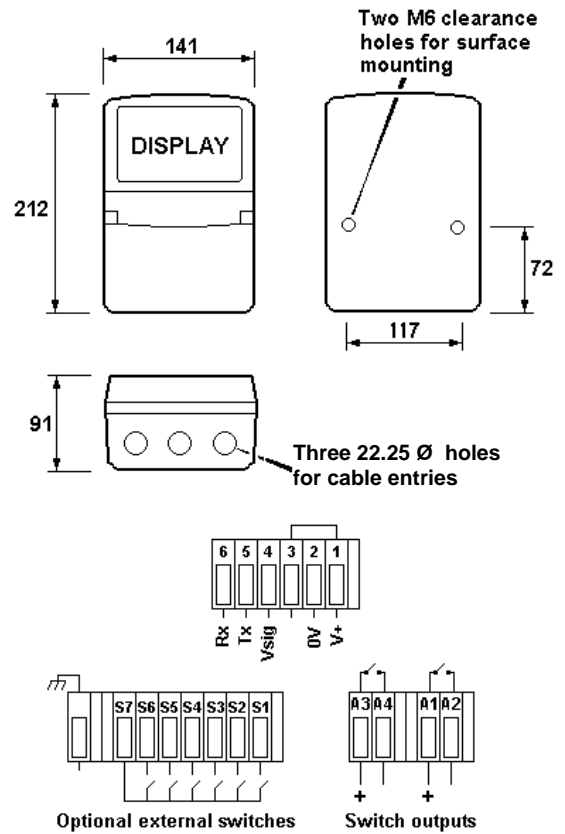

Fig 7 Dimensions and terminal connections
- Connect the field wiring to the terminals as shown in Fig 7.